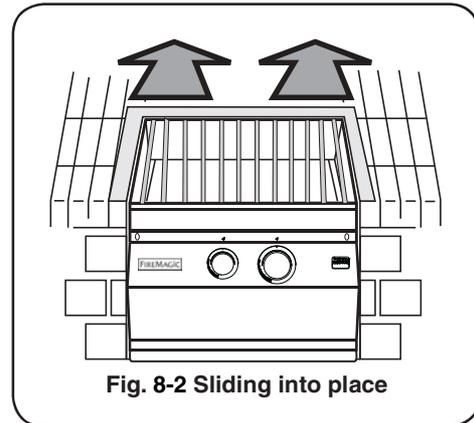

Fig. 8-2 Sliding into place
2. Slide your power burner into place, making sure not to pinch or kink the gas connector (Fig. 8-2).